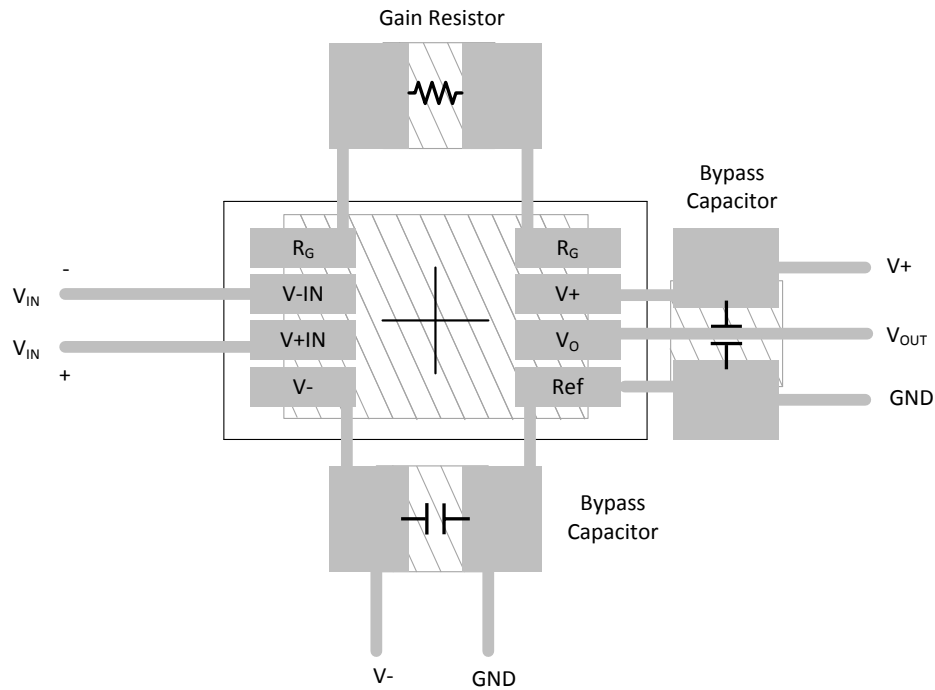

Figure 26. Layout for All Single INA126 Versions
- Place the external components as close to the device as possible. As illustrated in Figure 26, keeping RG close to the pins minimizes parasitic capacitance.